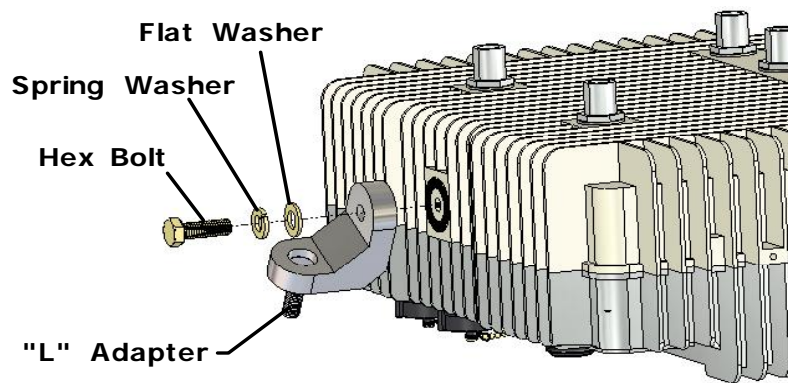

Figure 1: Mount 'L' Assembly
- Attach the 'L' adapter to the WLP using an M8 x25 hex bolt [E], a spring washer [H], and a flat washer [G], as illustrated in Figure 1.